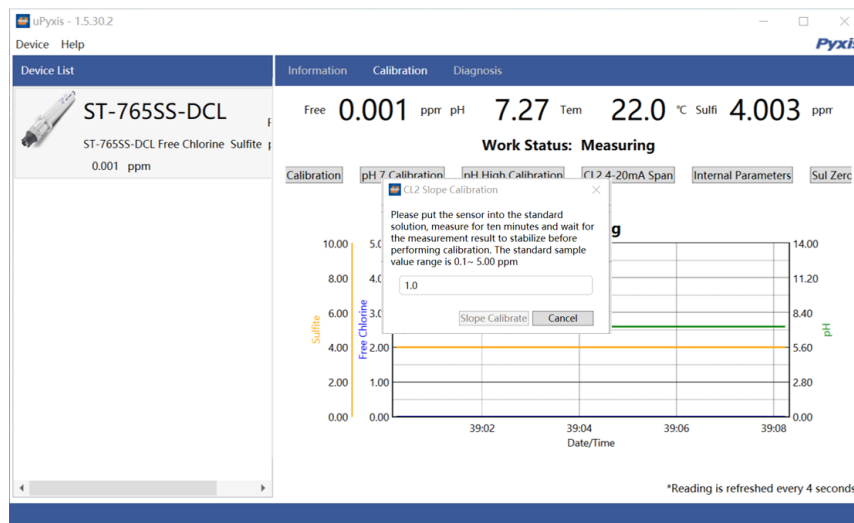

Figure 19 - Slope Calibration
The ST-765SS Series must be slope calibrated in the ST-007 (for clean water) or the FR-300-PLUS flow reservoir (for industrial water) used with the sensor and must have **CONSISTENT** flow within the specified range as outlined in the specifications section 1.0 of this manual. Determine the Free Chlorine concentration in ppm of the sample water taken from the sensor flow tee/reservoir output sample by using the DPD method on a portable or laboratory colorimeter (i.e., Pyxis SP-200 / SP-800 / SP-910 or similar). Launch the uPyxis app and connect to the ST-765SS Series sensor. Tap **SLOPE CALIBRATION**. Enter the Free Chlorine concentration determined by the DPD method in the dialog window as shown in Figure 19. Please make sure that the sensor reading has been stable for at least 10 minutes before calibration. For best results, the concentration of the bromine sample flow standard should be in the range of 0.1 to 5.0 ppm.
*Slope-point Calibration:* Insert the ST-765SS Series sensor back into the ST-007 tee or the FR-300-PLUS flow reservoir and reestablish sample flow. The ST-765SS-DCL sensor must be slope calibrated for Free-Chlorine based on DPD test method results of the actual system sample while installed in the ST-007 tee or the FR-300-PLUS flow reservoir used with the sensor and exposed to consistent system sample flow for the installation method being used as outlined in the specifications section 1.0 of this manual. Determine the free chlorine concentration by using DPD method on a portable or laboratory colorimeter (i.e., Pyxis SP-200 / SP-800 / SP-910 or similar). Tap **CL2 SLOPE CALIBRATION** and enter the test result value in Calibration Screen as shown in Figure 19. Please make sure that the sensor reading has been stable for at least 10 minutes before calibration. For best results, the concentration of the Free Chlorine sample flow standard should be in the range of 0.1 to 5.0 ppm.